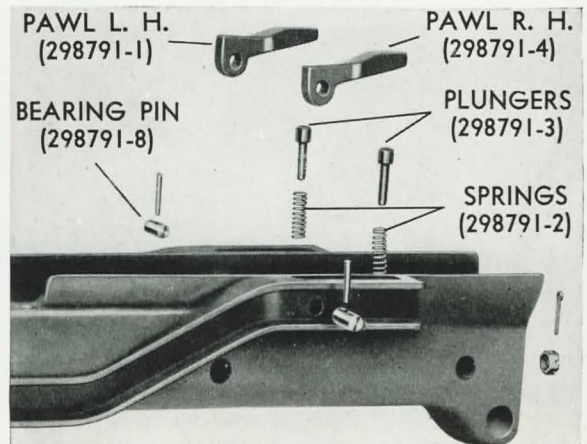
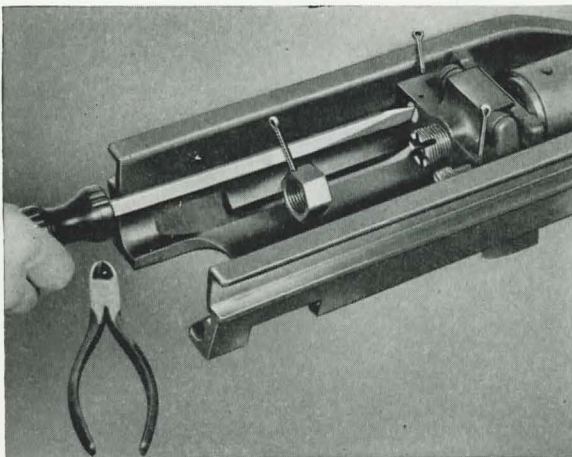

Figure 57
Figure 58
- (1) Install the rollers (298776-6) on the lower ends of the feed rods.
- (2) Install the tray assembly, sliding it in from the front end of the loader; be careful not to push the tray in far enough that the rammer shoe passes over the catch levers.
- a. Remove the tray pawls shown in **Figure 57**.
- (1) Tap out the taper pin and the bearing pins.
- (2) Remove the pawls, their plungers, and springs.
- b. Remove the rammer shoe nut and the lever bearing screws, **Figure 58**.
- (1) Remove the cotter pin and the nut.
- (2) Remove the cotter pins and the bearing screws.
- (1) Install the bearing screws (298791-9) and their cotter pins (1/8" x 1-1/4").
- (2) Install the 1-1/16" rammer shoe nut (298791-7) and the cotter pin (1/8" x 1-1/2").
- f. Install the tray pawls, **Figure 57**.
- (1) Install the springs (298791-2), the plungers (298791-3), and the pawls (right, 298791-4; left, 298791-1).
- (2) Insert the bearing pins (298791-8) and drive in the taper pins (No. 00 x 1-1/8").